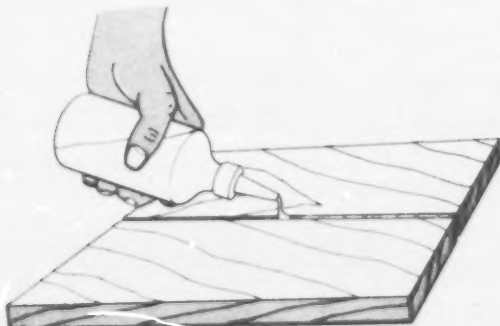

Figure 13-1 Applying glue
1. Apply the glue to the joints evenly with a brush or a squeeze bottle (*Figure 13-1*).